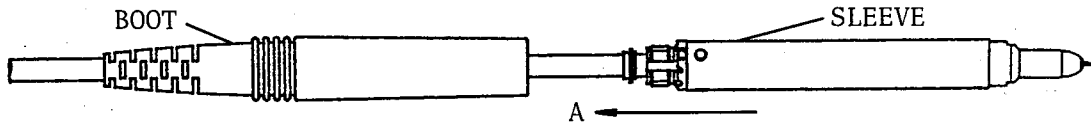

Figure 6-4. Sleeve Removal
2. Slide the SLEEVE in the direction of arrow **A** as shown in Figure 6-4.